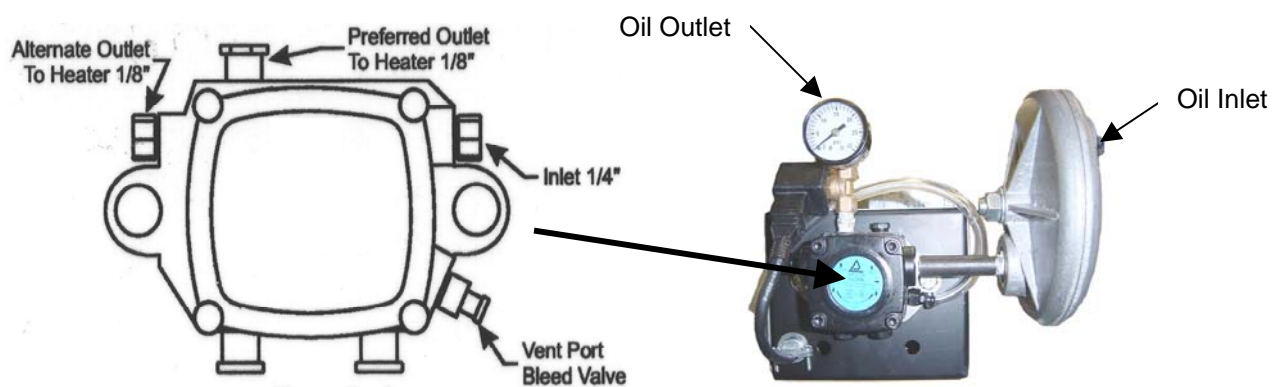

**Figure 4** – Oil Burner (Back View Opened)
Omni's patented burner technology improves the efficiency of the oil burn process by continuous stabilization of the oil viscosity. Optimum atomization (spray) is accomplished by precisely pre-heating the oil and air prior to introduction to the combustion chamber. The waste oil enters into the Oil Pre-Heater Block (figure 4) and is pre-heated to operating thermo setpoint, then
- **Oil Pre-Heater Block:** (figure 4) Pre-heats the oil and air before entering combustion chamber.
- **Photo Eye:** (figure 4) Senses flame in combustion chamber and signals oil primary when no flame is present.
- **Igniter Springs:** (figure 4) Transfers the high voltage from the igniter transformer to the electrodes (when door is closed)
- **Air Muffler/Filter:** (figure 4) Filters air and muffles the sound generated by the compressor.
- **Pre-Heater Control Circuit Board:** (figure 4) Precisely controls temperature of the Oil Pre-Heater Block and controls safety feature of not allowing burner to energize until oil has established operating thermo setpoint or shutdown burner if Pre-Heater Block temperature falls below shutdown thermo setpoint.